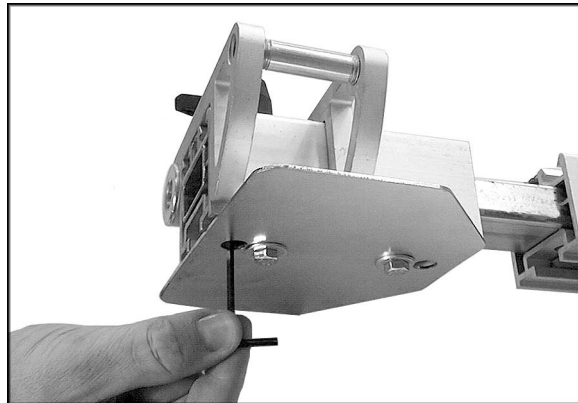
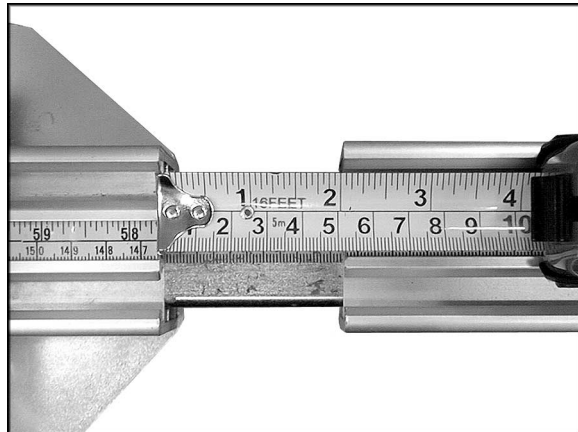

Figure 29
Figure 30
7. With a 3mm hex wrench, loosen the set screws underneath the short movable fence extrusion (Figure 29), and slide the extrusion to 2" of the fixed fence (Figure 30). Tighten the set screws.